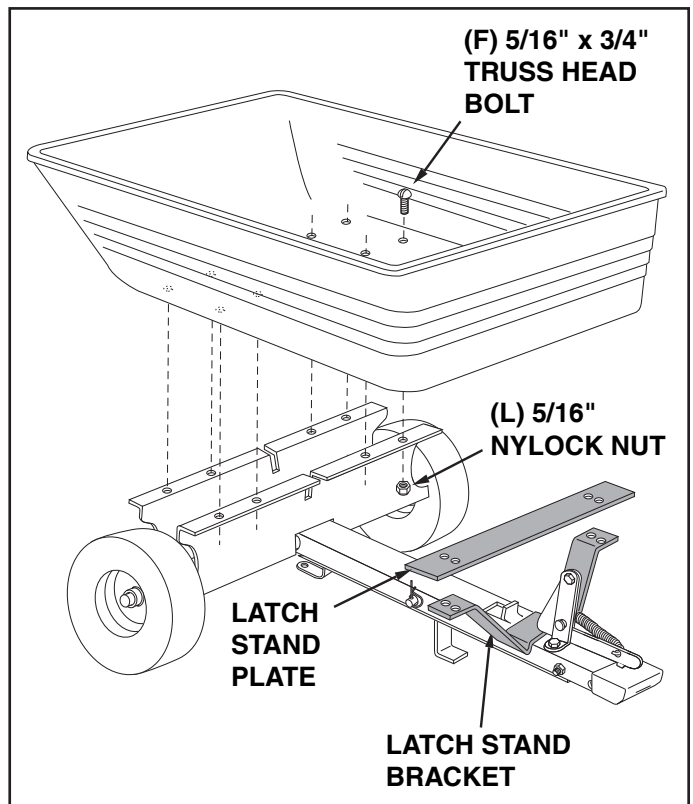

FIGURE 7
- Turn the assembled tongue, wheel support and wheels over to the upright position. Place the latch stand bracket onto the tongue between the latch lock assembly and the raised tab. Place the poly tray onto the wheel support and latch stand bracket. Fasten the tray to the wheel support using eight 5/16" x 3/4" truss head bolts (F) and 5/16" nylock nuts (L). **Do not tighten yet.** See figure 7.
- Place the latch stand plate between the latch stand bracket and the poly tray. See figure 7.